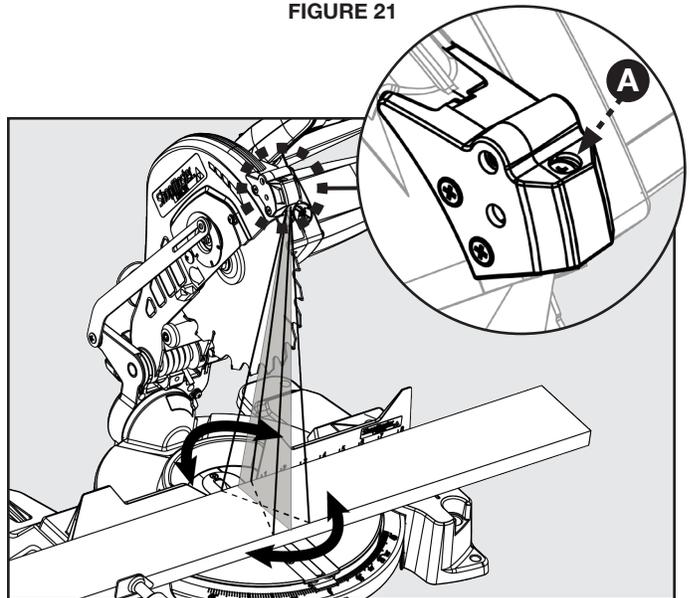

FIGURE 22
If you notice the laser line is not perfectly parallel with the saw blade refer to Figure 22 and follow these instructions: using a Phillips head screwdriver turn screw (A) until the laser line is parallel with the saw blade.